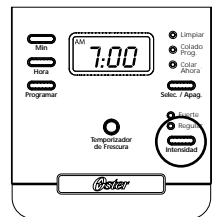

figure 5
2. To enjoy a more full flavored cup of coffee, press the Brew Strength “Intensidad” button once. The strong “Fuerte” brew strength light will turn on. The coffee maker will remain in the brew strength you have selected until you change it back to regular “Regular” strength by pressing the brew strength button or until you unplug the unit (Figure 5).